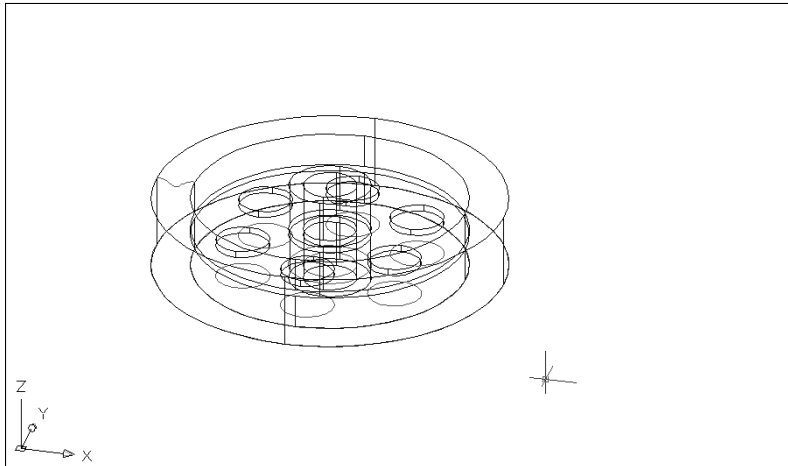

**Figure 24-29:** The 3D model for slicing.
1. If you did the exercise on creating complex solids, open `ab24-06.dwg` from your AutoCAD Bible folder; otherwise, open it from the `Results` folder of the CD-ROM. OSNAP should be on, with running object snaps for endpoint, midpoint, center, and quadrant. The drawing is shown in Figure 24-29.
Specify first point on plane: *Pick the quadrant at ❶ in Figure 24-29.*